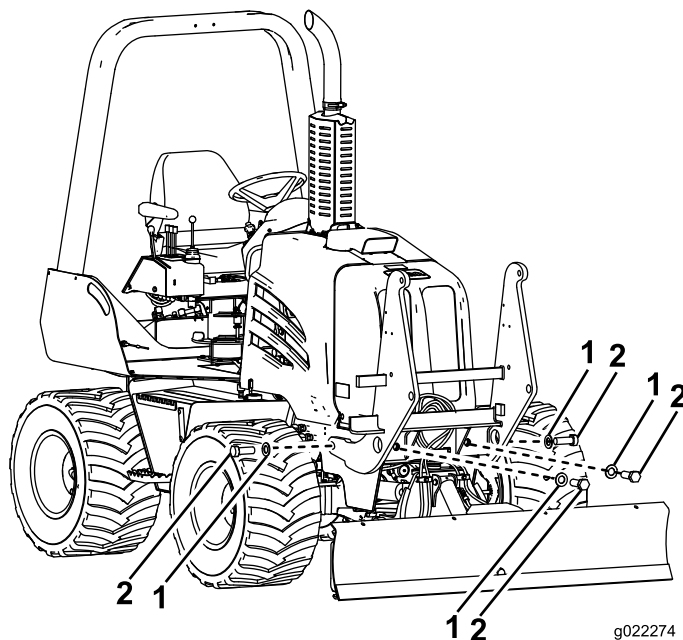

**Figure 1**
3. Use lifting equipment to raise or lower the mounting frame until the holes in the mounting frame align with the holes in the machine; refer to Figure 1.